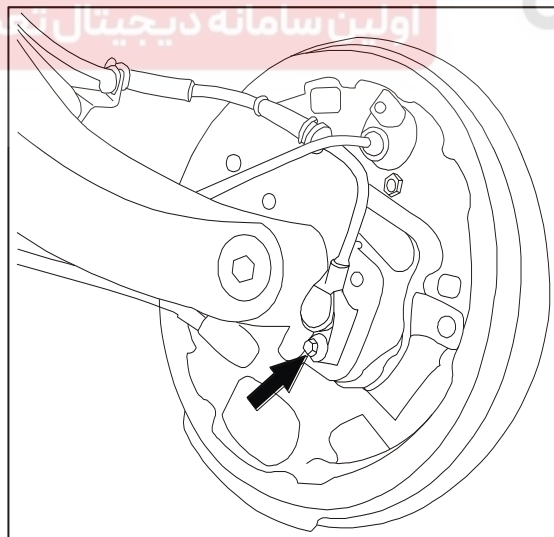

Figure 5-31 Rear wheel speed sensor
- (1) Lift the car with a lifter.
- (2) Untie the harness of sensor, and disconnect the connector of speed sensor.
- (3) Screw off the mounting bolt of sensor, and remove the sensor, as shown in Fig.5-31.